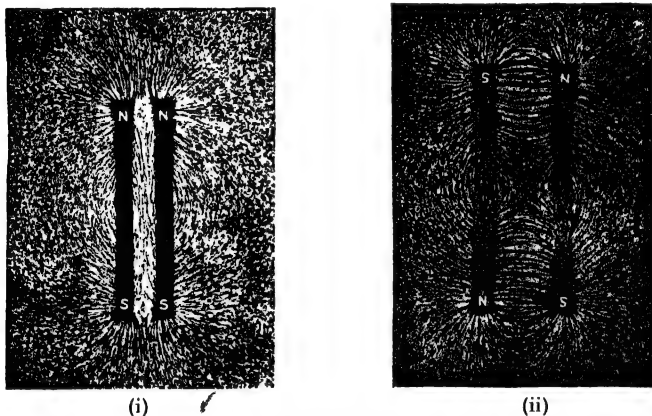

FIG. 106. MAGNETIC FIELDS SHOWN BY IRON FILINGS.
Repeat with two magnets placed (1) with like poles side by side, (2) with unlike poles together. Fig. 106 shows the results obtained.